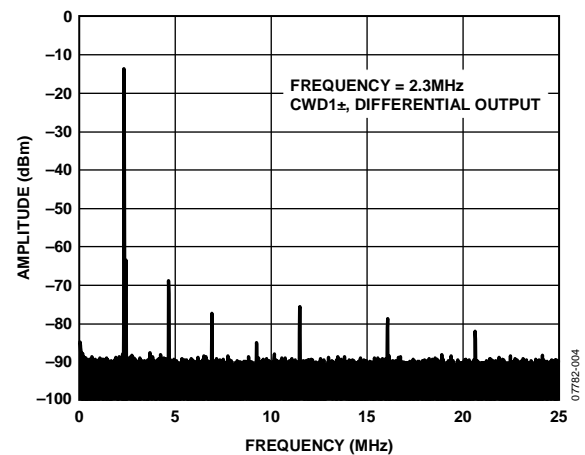

Figure 20. Typical Spectrum Analyzer Display of CWD Output
8. Examine the spectrum analyzer for the CW Doppler output (see Figure 20 for an example).